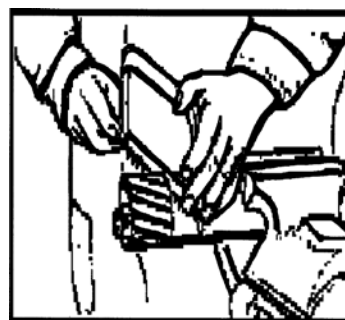

Fig.2
5. Cut off the universal shaft guard to the mark. (Fig. 2)